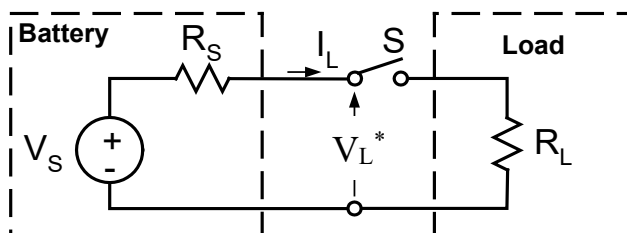

Figure 2.3
A. For the circuit drawn in Figure 2.3 (with the switch open), answer the following questions given $V_S = 1.5\text{V}$.